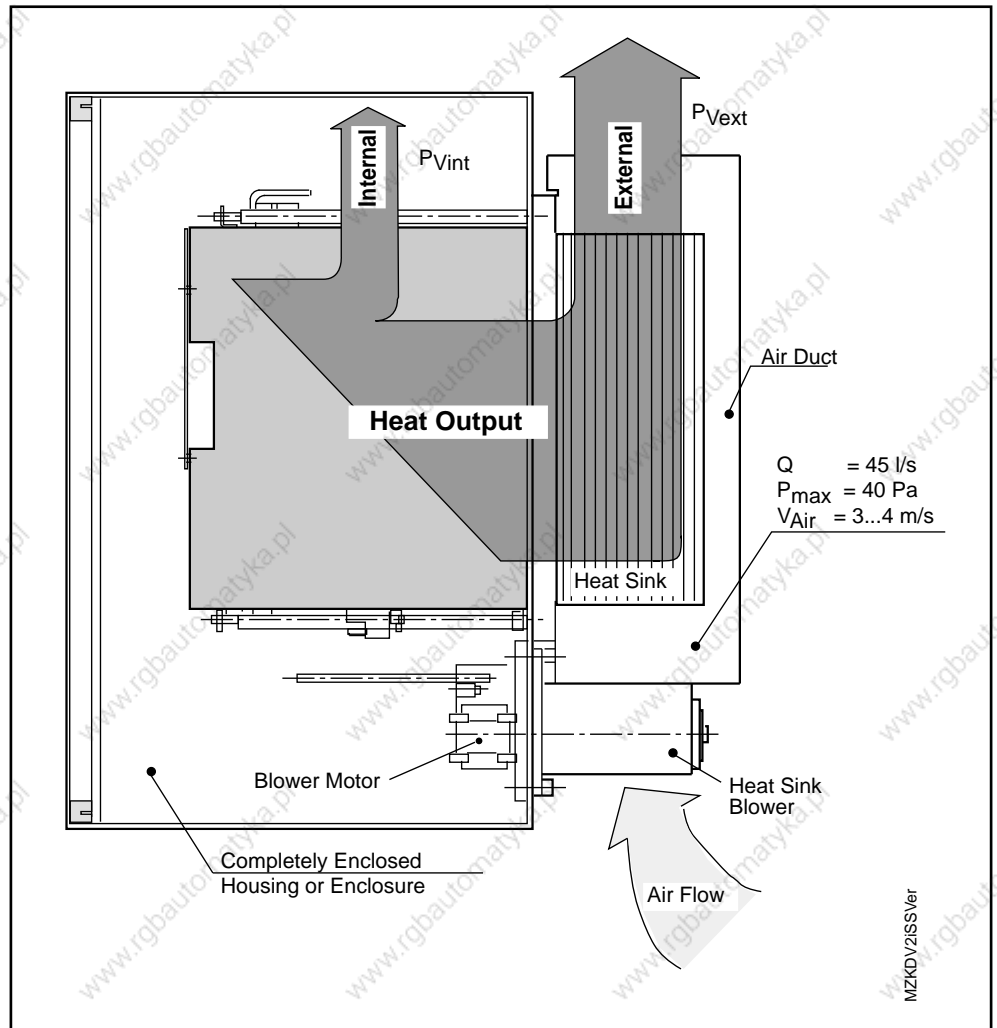

Fig. 2.16. Installation of KDV power supply modules in enclosures.
- Heat Losses in the Enclosure:** The KDV 4.1 achieves a high continuous output with low heat losses in the enclosure. The unit is designed to be installed with the heatsink extending through an opening in the back panel of the enclosure. Only about 20% of the total heat loss remains in the enclosure. The installation set provided with the unit can be used to seal off the opening to achieve an IP 65 protection classification. The costs of enclosing ventilation and cooling are significantly reduced when K-series power supplies are used. (See Fig. 2.16.)
- Heat Losses in the Enclosure:** The KVR 1.2 achieves a high continuous output with low heat losses in the enclosure. The unit is designed to be installed with the heatsink extending through an opening in the back panel of the enclosure. Only about 20% of the total heat loss remains in the enclosure. The installation kit provided with the unit can be used to seal off the opening to achieve an IP 65 protection classification. The costs of enclosing ventilation and cooling are significantly reduced when K-series power supplies are used. (See Fig. 2.16.)